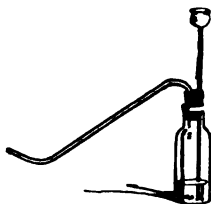

Fig. 39.
Supplies : Cu,  $\text{HNO}_3$ , apparatus as in Fig. 39, pneumatic trough, etc.
1. Arrange a gas gen., as in Fig. 39, and connect with a pneumatic trough with 3 inverted recs.